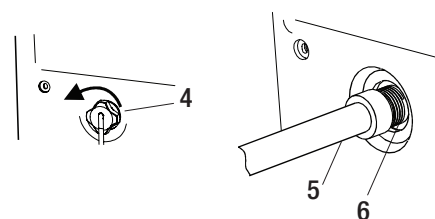

Figure 3
- Uncover the connector cover on the side of the unit (4).
- Attach a garden hose (5) to the drain hose connector (6) on the inside of the dehumidifier. Securely attach the hose to be sure there is no water leak. (Figure 3)